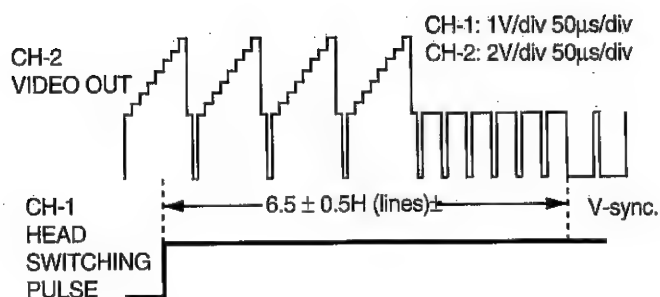

Figure 5-2.
6. Make this checking of waveform on the oscilloscope screen be as shown in Figure 5-2. just after the head switching point have been adjusted.